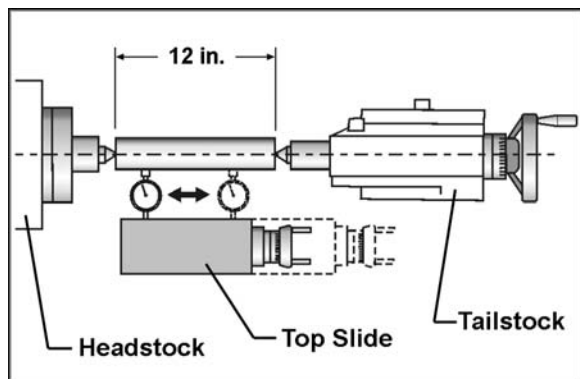

Figure 45 – Tailstock/Headstock alignment
1. Fit a 12" ground, center-drilled, steel bar between centers of the headstock and tailstock (Figure 45).